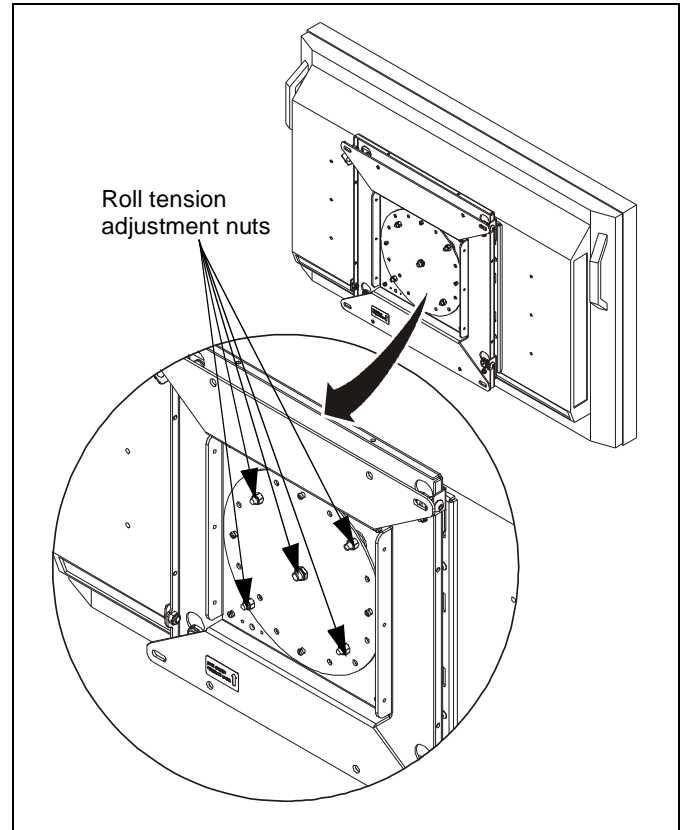

Figure 5
**NOTE:** Adjust all adjustment nuts evenly when adjusting roll tension. (See Figure 5)